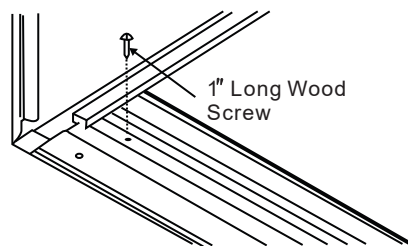

Fig.6
4. Secure bottom rail to wood frame with two large wood screws 1 "(2.5cm) long using the two holes in the bottom of the channel resting on frame.(See Fig.6).